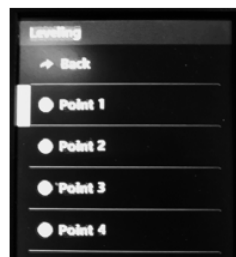

Fig 2
Step 3. Do "Prepare>> Bed leveling>> Point 1" on control panel(Fig 2), the nozzle will go to the corners of the bed, loosen the hand nuts under the hotbed (Fig 3) and let the nozzle almost touch the hotbed (Fig 4). Continue to do "Point 2/3/4" until all of the 4 corners has been leveled.